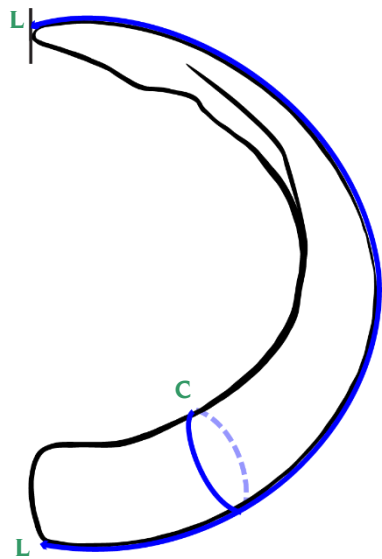

Figure 2
1. Length. Measure the length of the two longest tusks on the outside curve from the base to the tip. (Figure 2, L). Start the measurement at the base in line with the furthest projection of the tusk's ending;